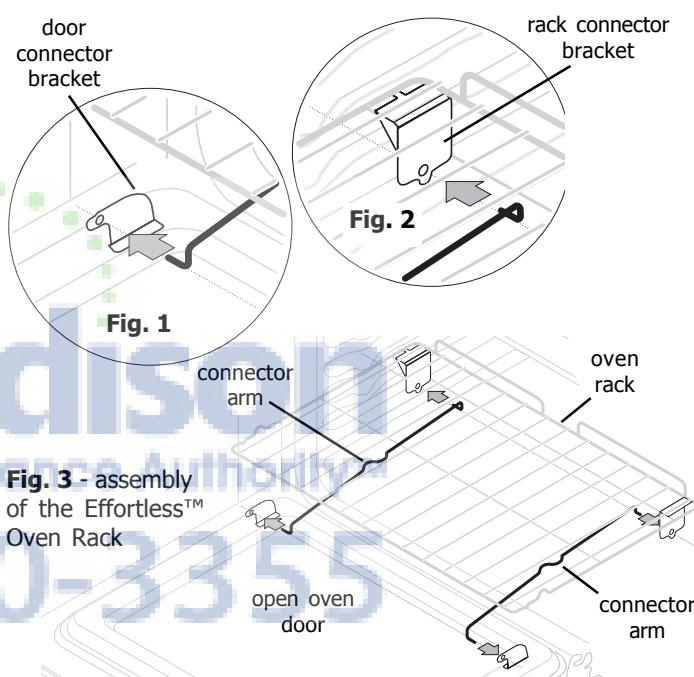

Fig. 3 - assembly of the Effortless™ Oven Rack
4. Assemble one connector arm at a time. With the oven door open and the oven rack in place, install one end of the connector arm to the hole in the **door connector bracket** (Fig. 1) and the other end in the hole in the **rack connector bracket** (Fig. 2 and as in Fig. 3). The oven rack may need to be adjusted in or out in the rack position to match the length of the connector arm.